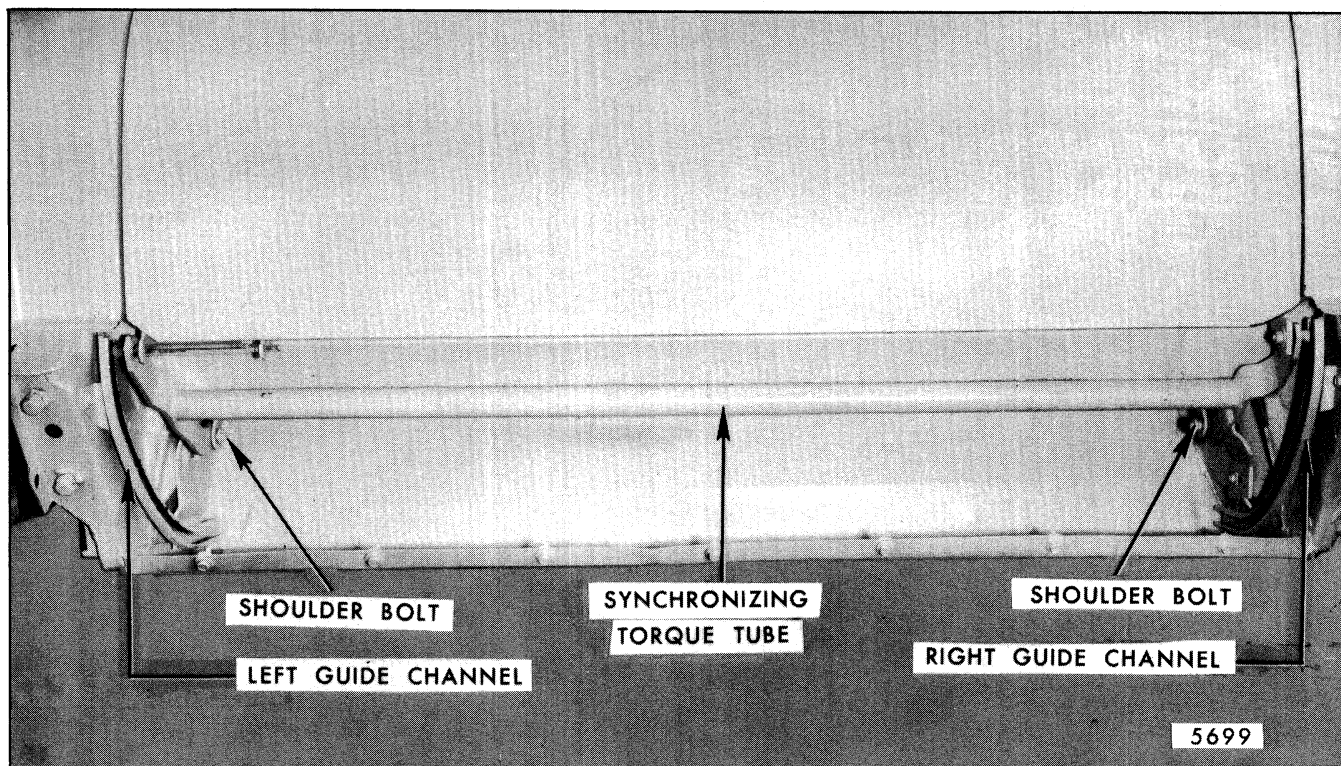

Fig. 7-139-Tailgate Synchronizing Torque Tube and Guide Channels
The tailgate guide channels, right and left, are mounted in the back body lower housing and establish path of travel for the tailgate (Fig. 7-139). Each guide channel assembly consists of a curved channel
2. Remove right and left synchronizing torque tube-to-guide channel link shoulder bolts (Fig. 7-139).